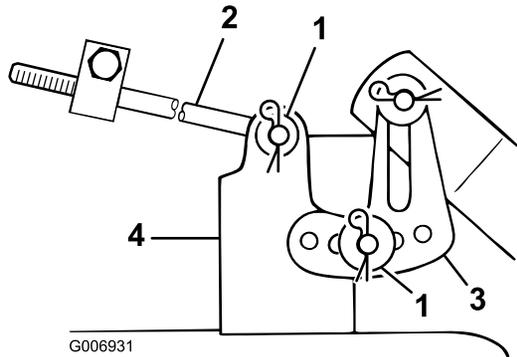

Figure 52
9. Remove the hairpin cotter and washer from the end of the long rod (Figure 52). Slide the rod out of the cutter deck mount.
10. Remove the hairpin cotter and washer at the cutter deck leveling bracket (Figure 52). Slide the bracket